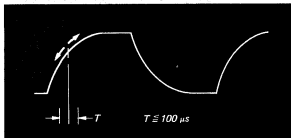

Fig. 7-7.
2. Check that gate pulse locks at TP-405 in the range of less than 100  $\mu\text{sec}$ . See Fig. 7-7.